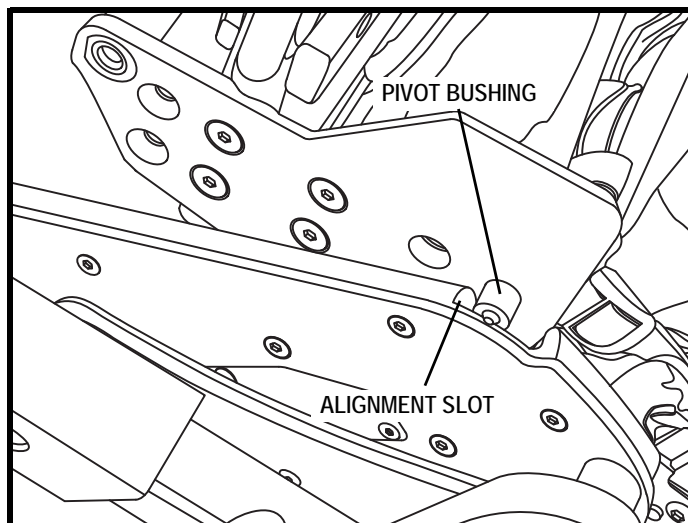

Figure 15. Installation of the Kids FAST Shell Assembly
1. Lower the shell assembly into the mobility base so that the seat pivot bushings enter the alignment slots. See **figure 15**.